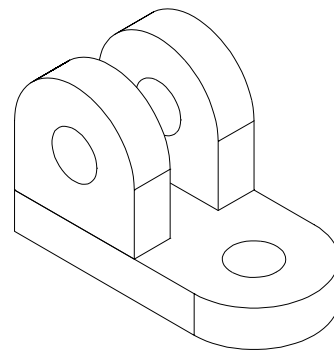

Figure 27-22 Model after mirroring
7. The object after mirroring and hiding the hidden lines should look similar to that shown in Figure 27-22.